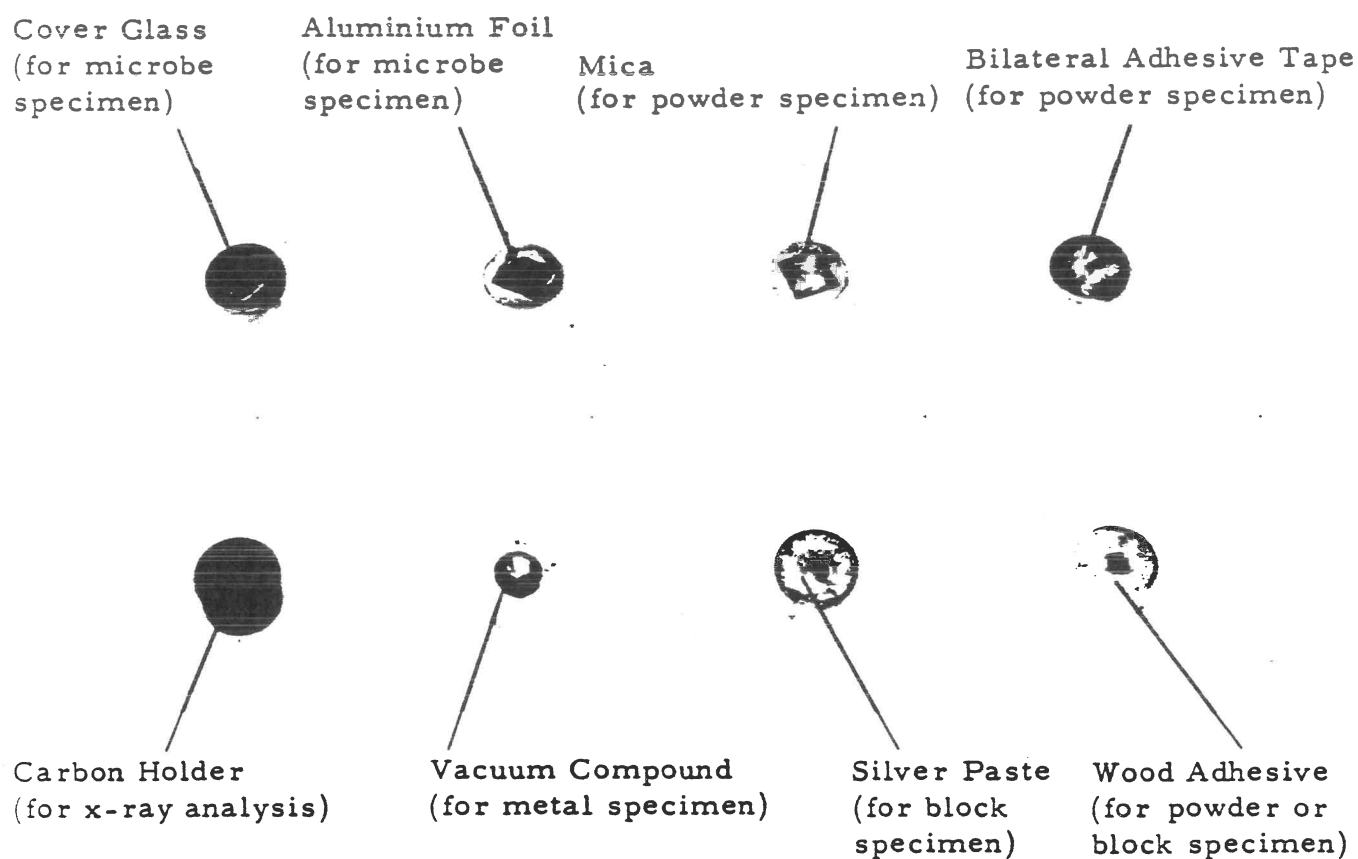

Fig. 2-5 Examples of Specimen Setting on Specimen Stub
- (b) Set the dried specimen on to the specimen stub using a suitable specimen fixing paste. Select the best suited fixing paste and method for the particular specimen. Some examples of specimen setting are illustrated in Fig. 2-5. Use a minimum amount of silver paste or the like which contains solvent.